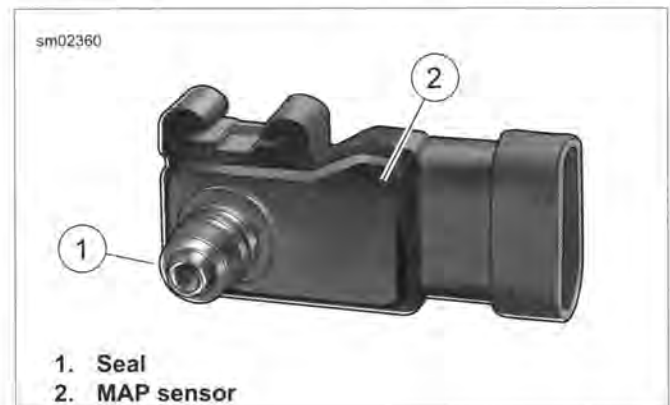

Figure 4-25. MAP Sensor
See Figure 4-25. Prior to installing the original sensor, inspect the seal (1). Worn or damaged seals could cause vacuum leaks. Install **new** seal if necessary.